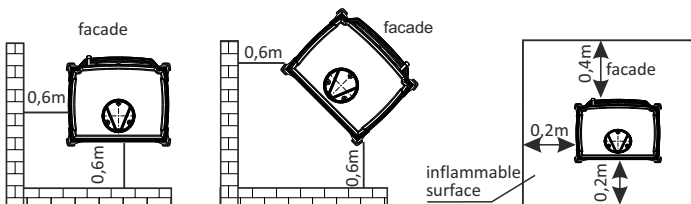

Fig.2. Safe distance from the stove.
- the stove must be placed on the inflammable surface extending for min. 0,4 m from the stove and min 0,2 m measuring from the sides and the back of the stove (See Fig 2),